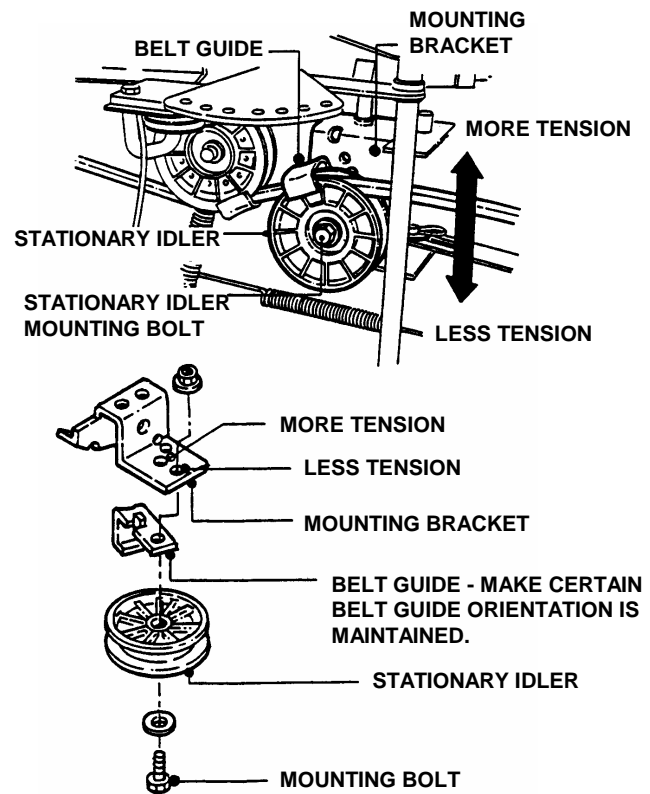

FIGURE 4.12
4. Remove the traction drive belt stationary idler mounting bolt. See Figure 4.12.
NOTE: Note the orientation of belt guide and make certain it remains in the same orientation after moving idler. Should less tension be required move stationary idler towards right side of tractor. See Figure 4.12.